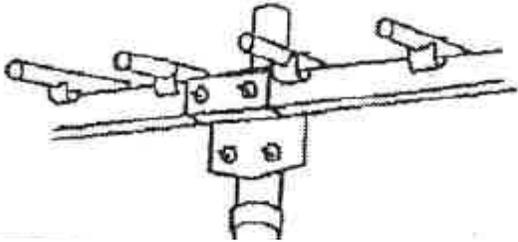

Figure 2: Mounting Detail
2. Loosely assembly the dual 'U' bolt mounting bracket onto the crossarm as shown in figure 2.